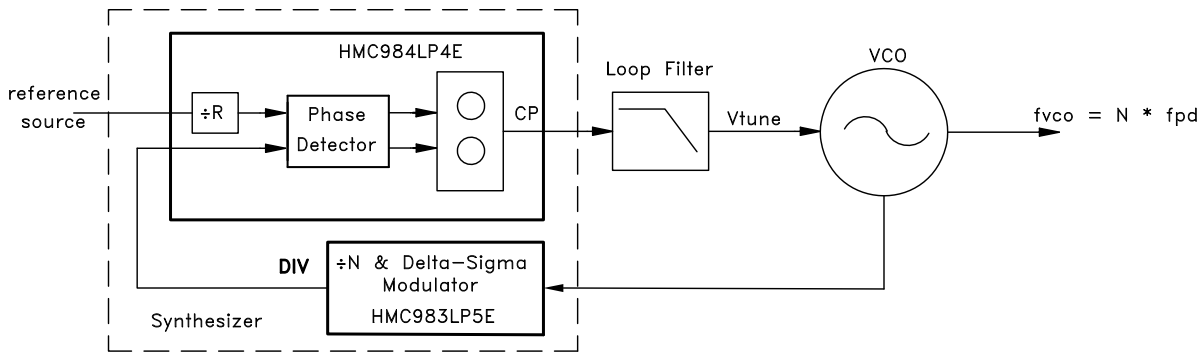

Figure 25. Typical Application of HMC984LP4E with HMC983LP5E to Form a Frequency Synthesizer
Primary target application of the HMC984LP4E is to be used with the HMC983LP5E as shown in Figure 25. Together these two components form a high performance, low noise, ultra low spurious emissions fractional-N frequency synthesizer. The two components are separated in order to maximize isolation between them, and minimize common distortion and modulation by-products that exist in all PLLs. Careful IC design and increased isolation between the two components result in high performance , high spectral efficiency PLL, with extremely low spurious emissions.
These four values help to visualize the main contributors to phase noise in the closed loop PLL. Each falls on a linear line on the log-frequency phase noise plot shown in Figure 25.
As shown in Figure 25, the HMC984LP4E features an ultra-low noise digital differential Phase Detector (PD) with two differential inputs. One input comes from the reference path divider and the other from VCO path divider. The reference input is internal to HMC984LP4E whereas the divided VCO input is external. The output from the PD is fed to the charge pump in HMC984LP4E which converts the PD digital output to a current with programmable gain. The output of the CP is directly proportional to the phase difference between the divided reference and the VCO path signals.
The input of PD is a differential current-input. The input interface configurations are shown in Figure 25 and Figure 25. The HMC984LP4E is designed to work with its companion divider part, the HMC983LP5E, that provides an open collector output. The inputs are internally pulled up to VCCPD with on-chip 50  $\Omega$  resistors. Thus, any open collector buffer can drive the PD inputs. A minimum of 750 mVpp single-ended level is needed to drive the PD inputs.